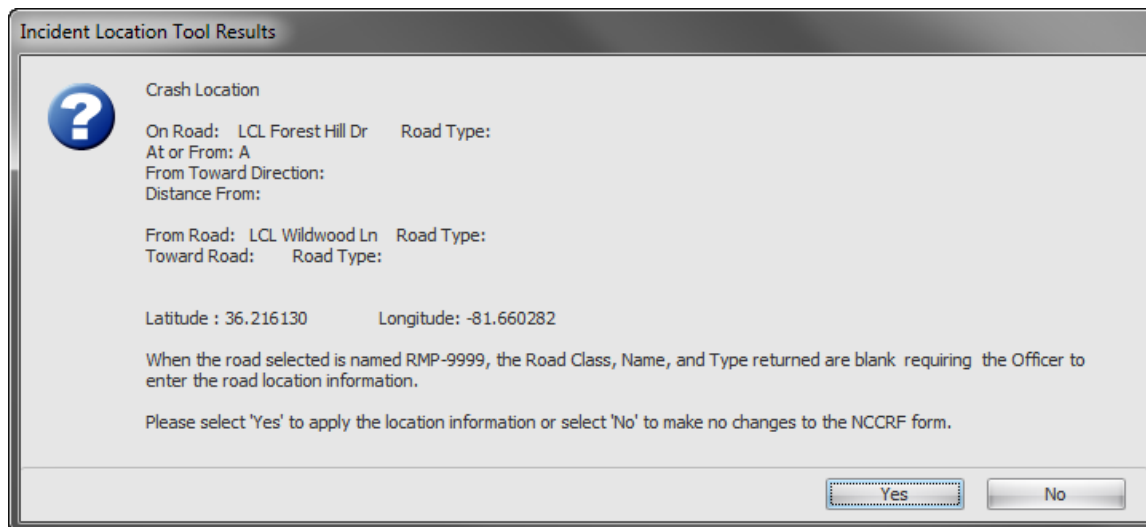

Figure 130. Incident Location Tool Results
3. Select the road name or number on which the crash occurred and click the arrow button to move the name to the **Road of Occurrence** box and click **OK**. The Incident Location Tool Results window opens, as shown in Figure 130.
6. The **Incident Location Tool Results** window opens, as shown in Figure 130. Verify that the **On Road** and **From Road** results are correct.